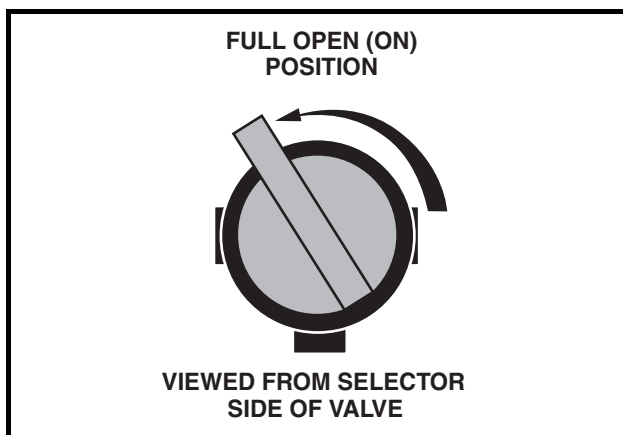
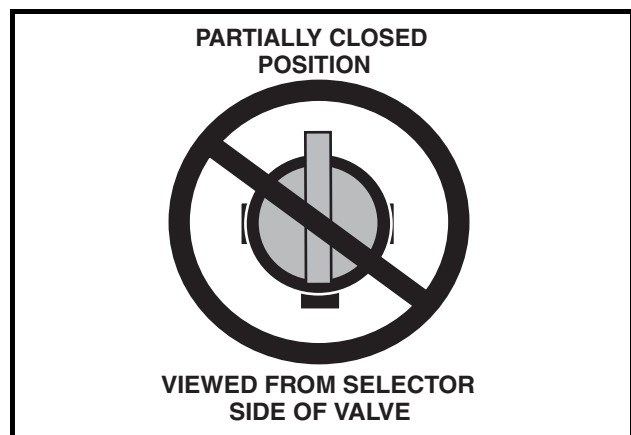

Figure 17 Fuel Shut-off Valve – Open Position
Figure 18 Fuel Shut-off Valve – Partially Closed Position
3. Completely open the fuel shut-off valve (**Figure 17**). Make sure the valve is fully open. A partially closed fuel shut-off valve (**Figure 18**) combined with the use of the choke can result in a fouled spark plug and engine failure.